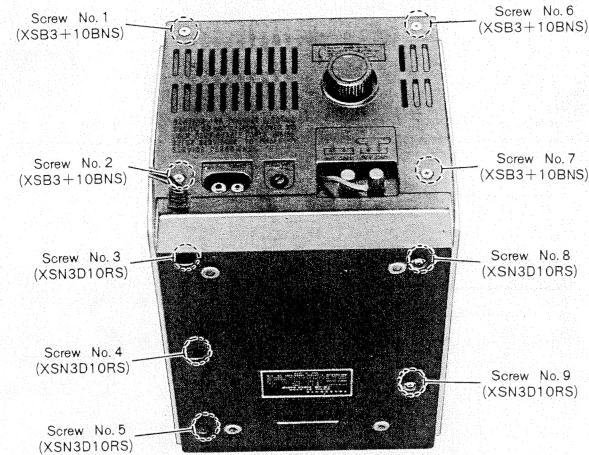

Fig. 5
1. Remove knobs (8).
2. Remove set screws 1, 2, 6 & 7 holding the cabinet back cover, as shown in fig. 5.
6. Remove red screws 3~5, 8 & 9 holding the chassis, as shown in fig. 5.